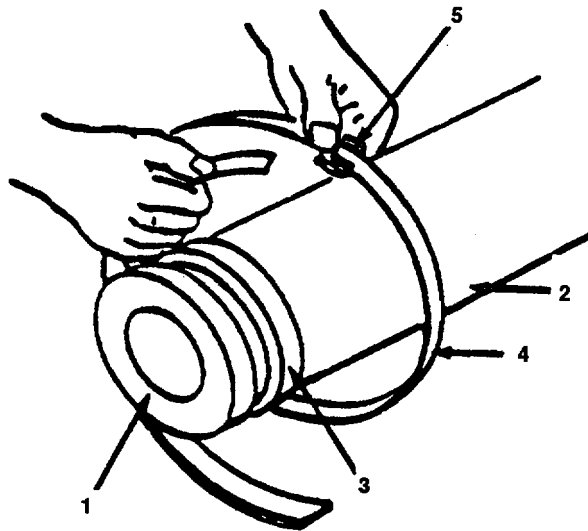

Figure 3-3. Male Quick-Disconnect Coupling Half and Banding Installation.
- g. Drain hose ends (3) and wipe dry.
- h. Insert male-end of quick-disconnect coupling half (Figure 3-3, 1) into hose end (2), until shoulder (3) is flush with hose end (2).
- l. Place both ends of strapping (4) through buckle (5).